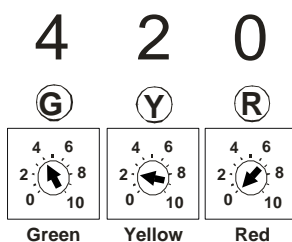

FIGURE 2
1. Start with the base setting; see Figure 2, even if you have a full exhaust system. Adjust and test only *ONE* adjustment pot at a time until you are happy with the result.